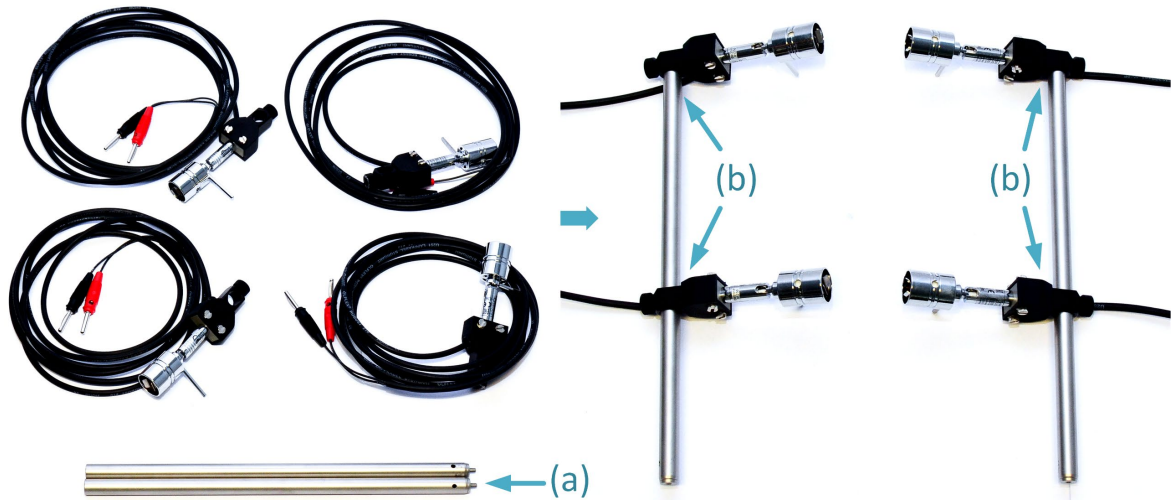

Figure 23 Assembly of lamp holders on the posts (Step 4.1)
Step 4.1 Mount the lamp holders on the post (Figure 23)
- Slide two lamp holders on the post and fix them by tightening the screw on the post end clamp, as shown in Figure 23. Repeat this step to assemble the remaining two lamp holders on the second post.